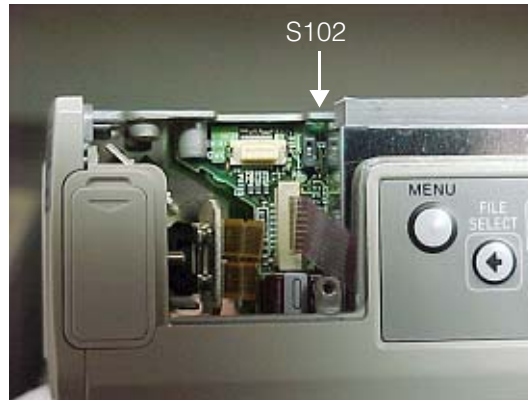

Figure 7. Sony DXC-390 with cover removed
2. Locate switch S102 as shown in Figure 7.